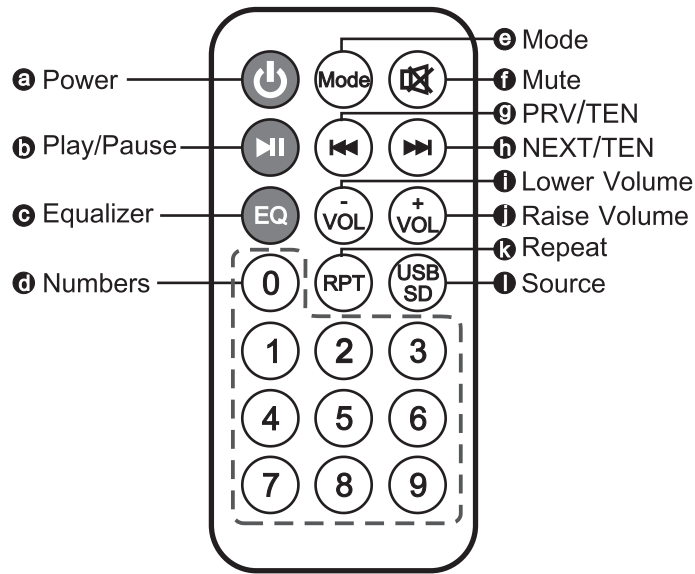

Fig. 27
3. Remote Controls and Indicators, Fig. 27: